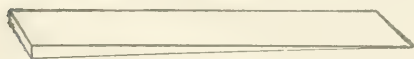

FIG. 37.
84. Applications of the Inclined Plane.—The wedge is a movable inclined plane that in various modifications serves for many different purposes. In the form of a stake wedge, as shown in Fig. 37, it serves to